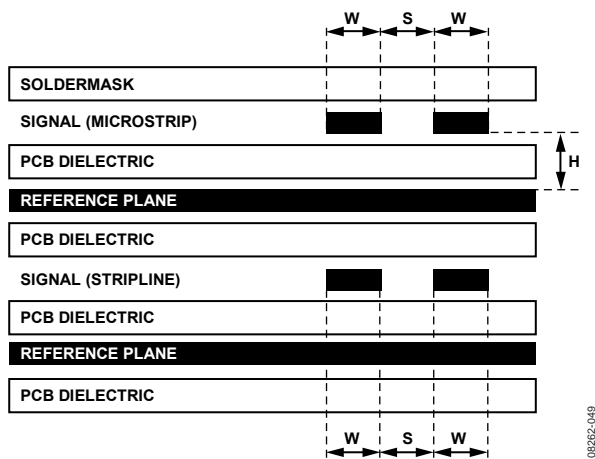

Figure 48. Example of a PCB Cross-Section
The high speed differential inputs and outputs should be routed with  $100\ \Omega$  controlled impedance differential transmission lines. The transmission lines, either microstrip or stripline, should be referenced to a solid low impedance reference plane. An example of a PCB cross-section is shown in Figure 48. The trace width (W), differential spacing (S), height above reference plane (H), and dielectric constant of the PCB material determine the characteristic impedance. Adjacent channels should be kept apart by a distance greater than  $3W$  to minimize crosstalk.